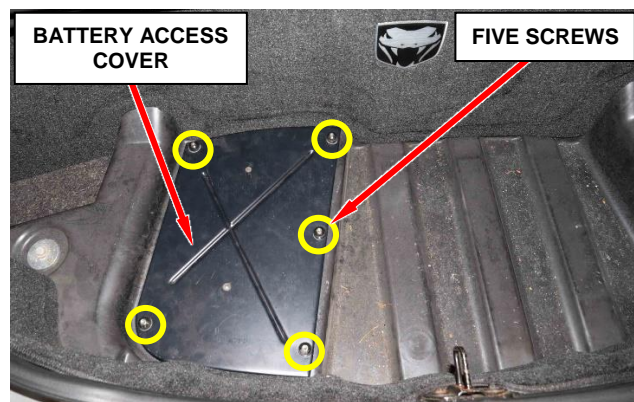

Figure 1 – Battery Access Cover
4. Remove and save five screws and the battery access cover located in the trunk (Figure 1).